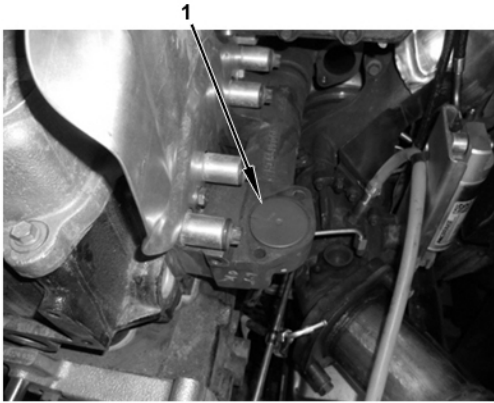

Figure 16 Rear Exhaust Manifold Outlet Cap
21. Place cap on rear exhaust manifold outlet (1) (Figure 16).